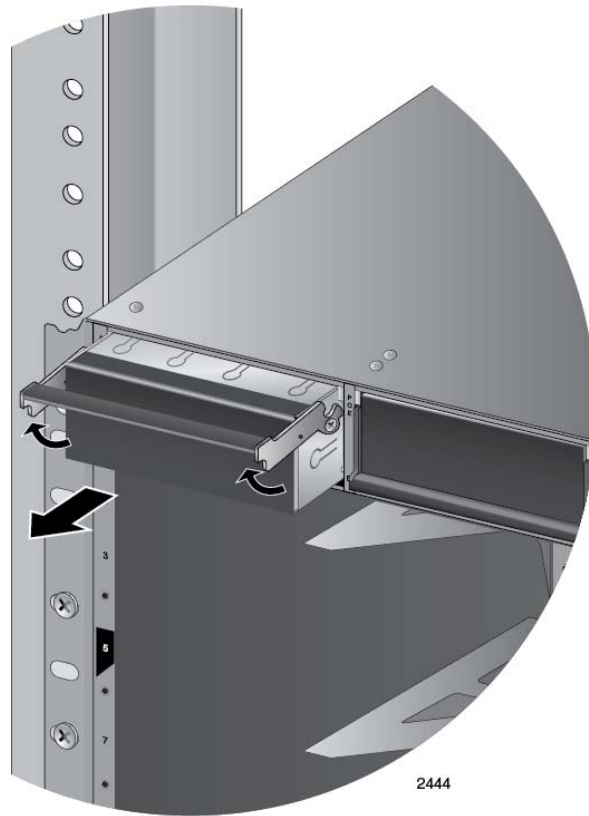

Figure 53. Removing the Blank Slot Cover from Power Supply Slot A
2. Raise the handle on the blank panel covering the selected slot and slide the panel from the chassis. Figure 53 on page 126 illustrates the removal of the blank panel from slot A.